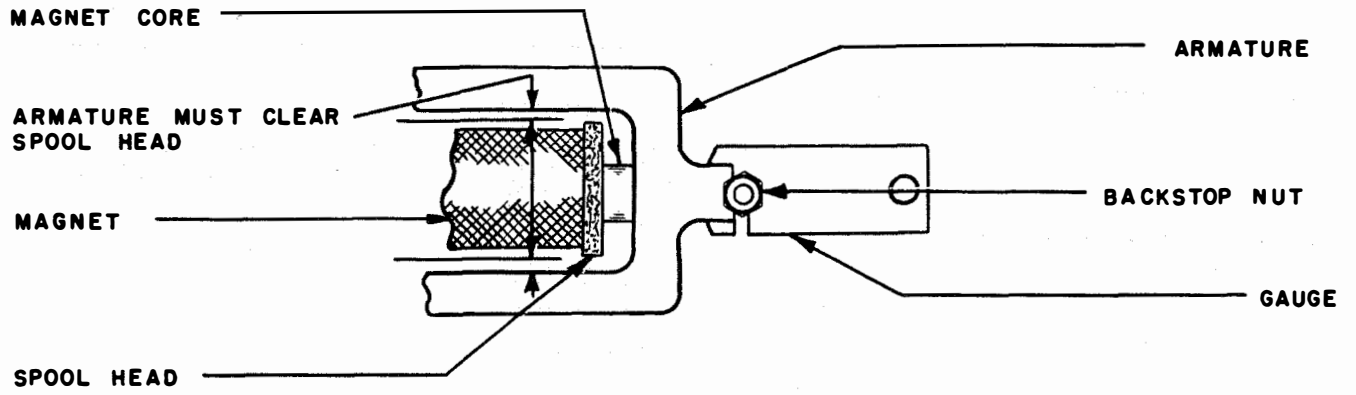

FIGURE 5
(a) There should be at least .008" clearance between the armature and the adjusting stud in all positions of the armature travel. Gauge by eye. In questionable cases use an .008" feeler gauge. (Figure 5)
(g) The armature should be centered with the relay core, and the legs of the armature must clear the spool head (Figure 5) at all times. Gauge by eye.
Use gauges (from the 114197 set of gauges) inserted as shown (Figure 5).
2. Insert an .018" gauge as shown (Figure 5) and electrically energize (operate) the relay as described in Paragraph c. (1) (h). Contacts which are normally open with the relay unoperated should remain open.